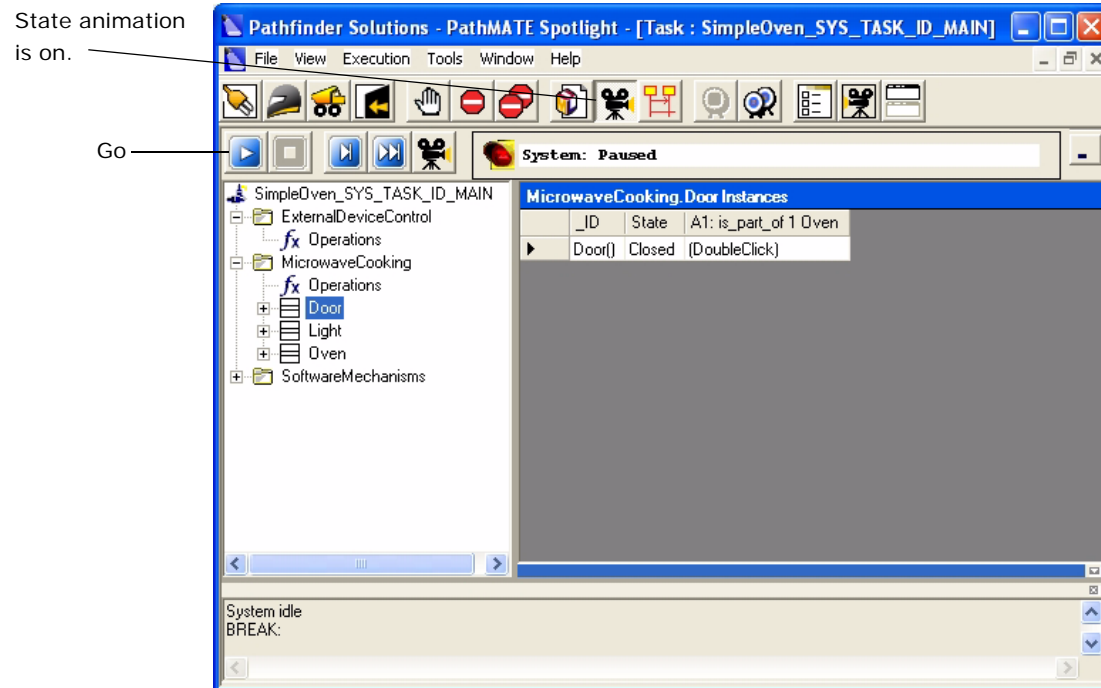

Figure 4-9. State Animation
5. Click the Go button above the browser in Spotlight (Figure 4-9).